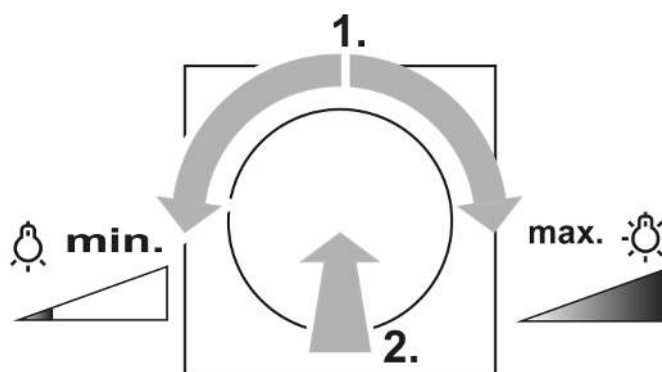

Figure 2: Switching on the light at minimum or maximum brightness
- Turn the setting knob by a quarter turn, then press the setting knob briefly: Light switches on at minimum brightness or maximum brightness (see figure 2).